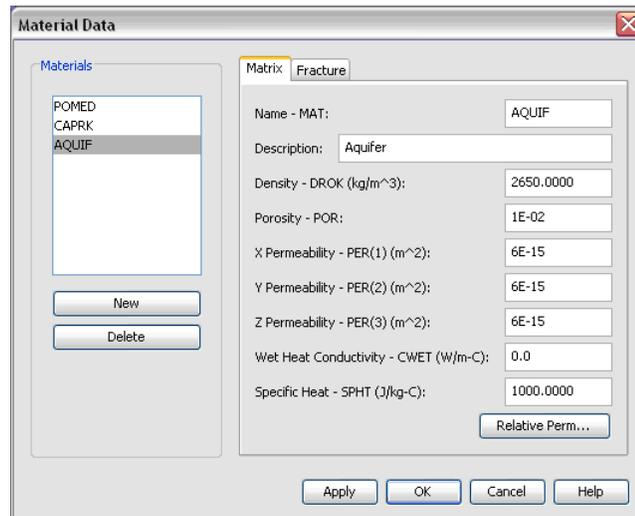

Figure 3.3. Changing the conductivity for the material AQUIF
2. In the **Wet Heat Conductivity** box, type 0.0, Figure 3.3.